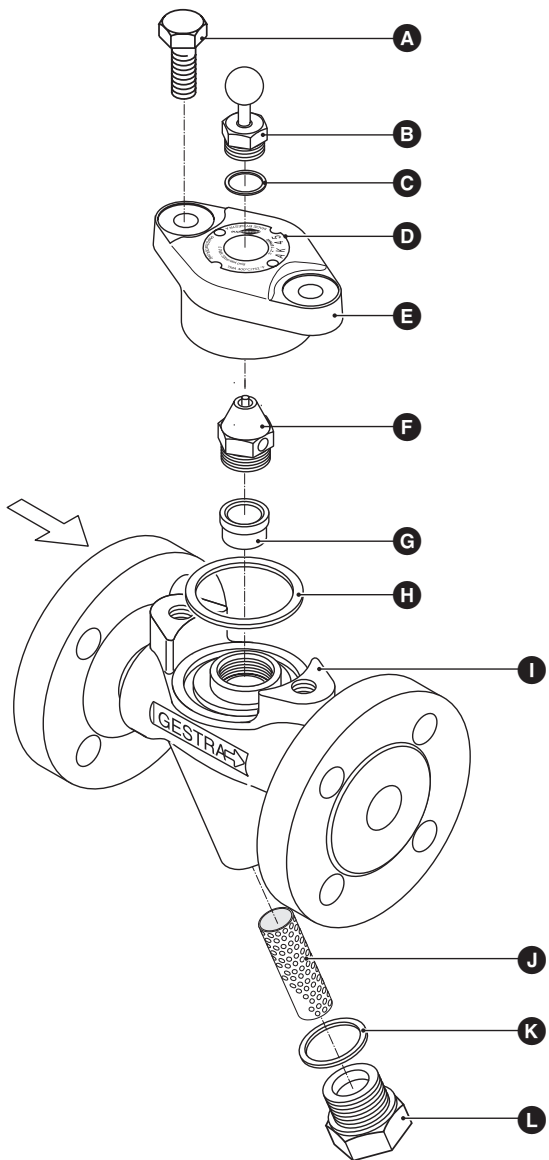

Fig. 2
2. Unscrew body screws **A** and take the cover **E** off the body **I**. **Fig. 2**
2. Unscrew body screws **A** and take the cover **E** off the body **I**. Fig. 2